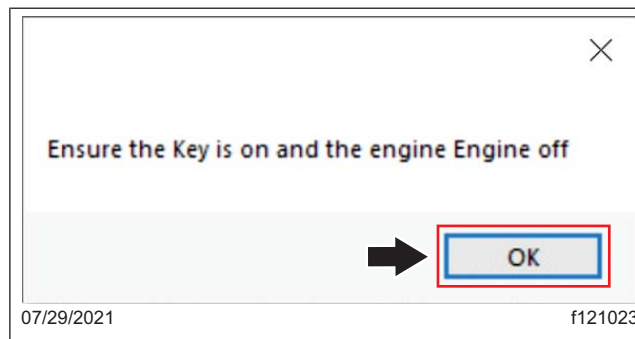

Fig. 5, Selecting OK Message Window
4. Open the Bendix Intellipark update tool. A window will open with a message 'Ensure the key is ON and the engine is OFF.' Select 'OK.' See Fig. 5.